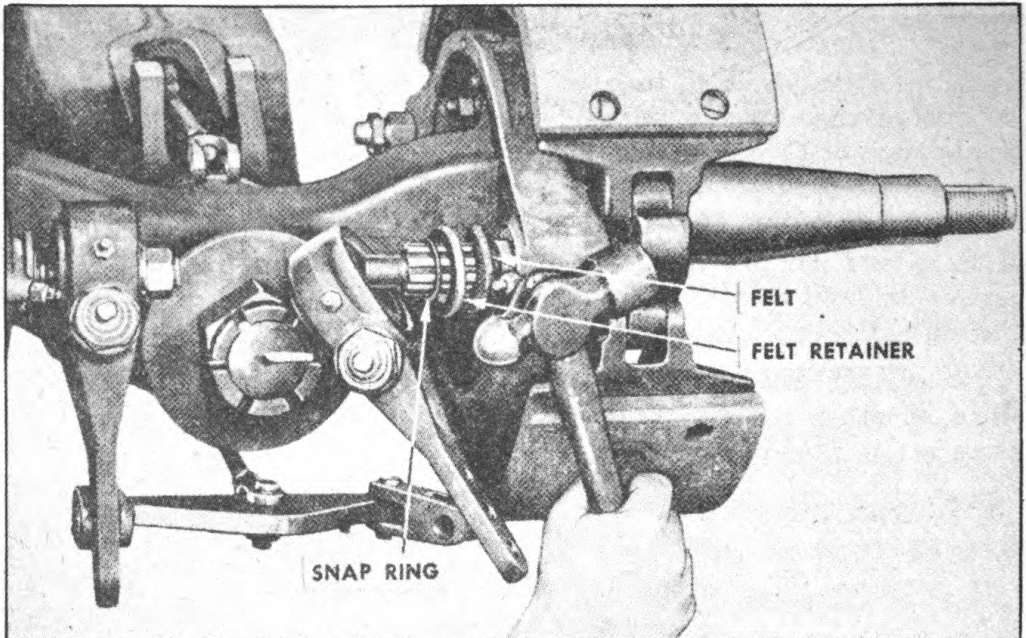

FIGURE 21. REMOVING CAM—STEP TWO
- (4) Pry the snap ring free and work it back toward cam end (Figure 21).